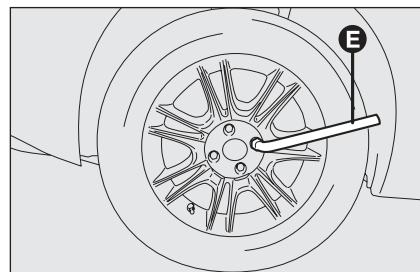

fig. 11
- Using the wrench provided **E-fig. 11** loosen the fastening bolts by about one turn; if the car is fitted with alloy rims, shake the car to facilitate removing the rim from the wheel hub;